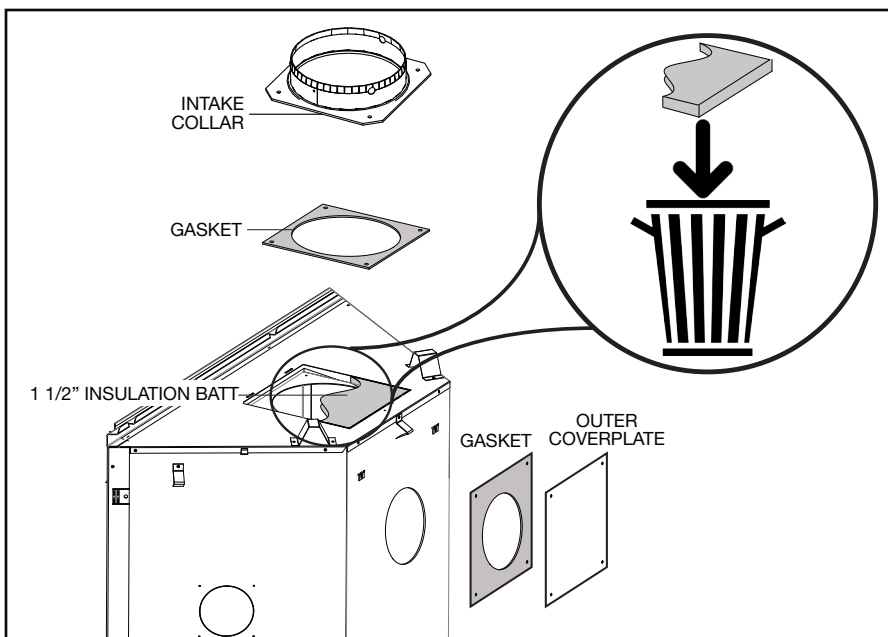

Fig. 2
- D. Remove the 1 1/2" (38.1mm) thick batting of insulation and **discard** (**Fig. 2**).
- E. Place the 7" (177.8mm) intake collar and gasket onto the top of the appliance and secure using 4 screws (**Fig. 2**).